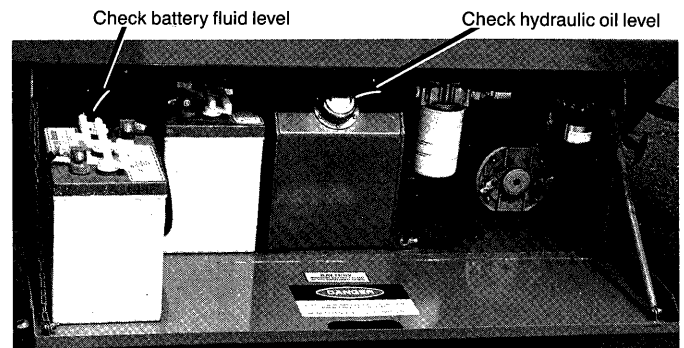

Figure 2. Energy Module
3. Check hydraulic oil level with platform fully lowered. Oil should be visible in strainer (Figure 2). Use Mobile DTE 25 or equivalent.
4. Check battery fluid level (Figures 2 and 3).